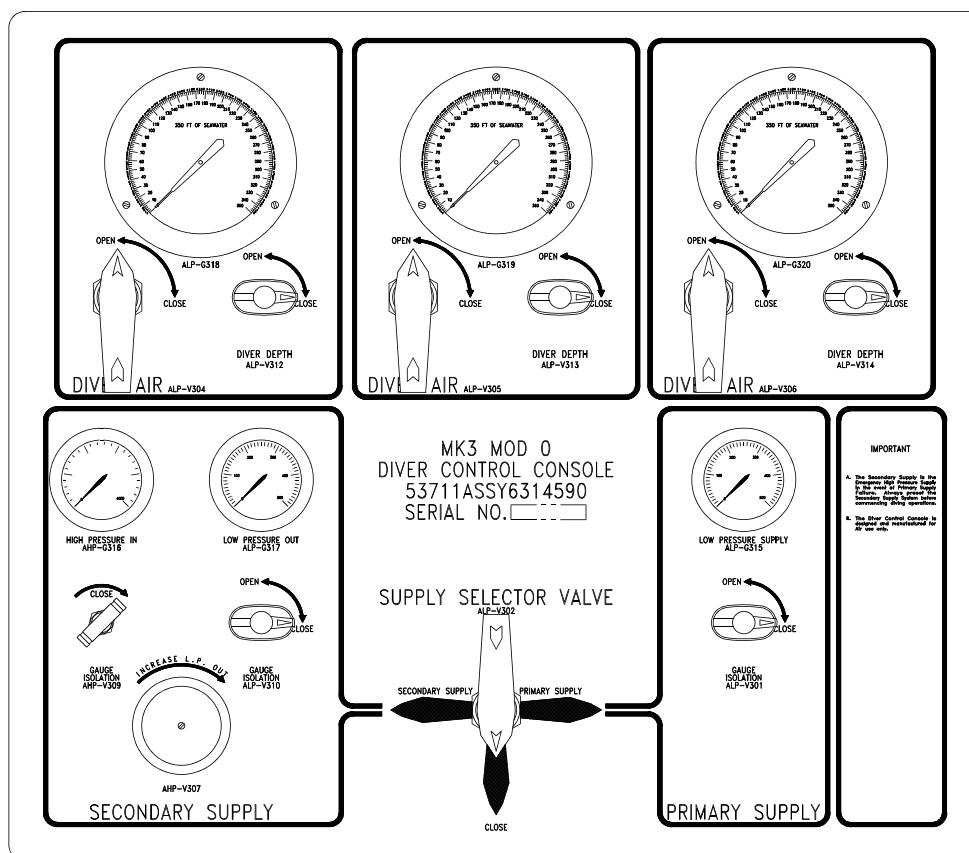

Figure 3-8. Control Console Assembly
3.3.4 CONTROL CONSOLE ASSEMBLY. Control of diver air and pneumofathometer air flow in the LWDS is provided by the control console assembly (Figure 3-8). LP air from the volume tank assembly and HP air from the secondary air supply enters the control console assembly through marked fittings. Air from the secondary HP air supply is directed from the flask rack to a manual adjust regulator in the console. The air is regulated and directed through control valves to the diver umbilicals. Pressure gauges in the console allow the operator to monitor the primary or secondary air supply. The console also contains pneumofathometer gauges to monitor diver depth and provides a depth readout for each diver. Each umbilical contains a pneumofathometer hose through which air pressure proportional to diver depth is sensed. Under normal conditions, primary air is used to purge the pneumofathometer hose. The supply selector valve is used to either select primary LP air for normal operations or switch to secondary HP air in the event of an emergency.